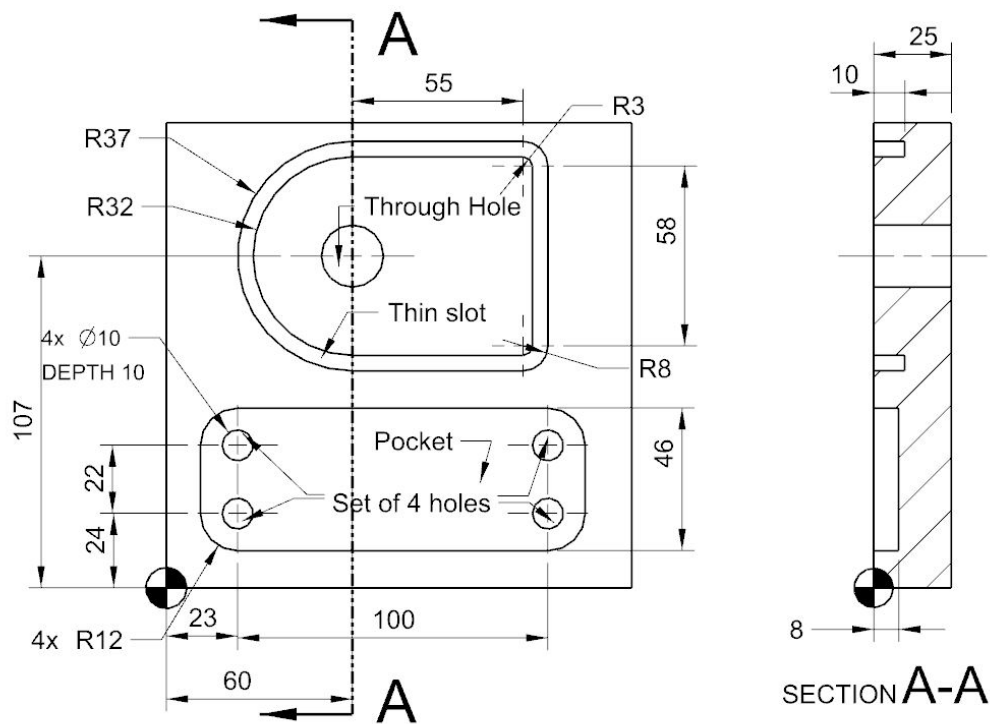

Figure 4. Diagram of part to be produced
- a) Write an NC program to manufacture the thin slot, the holes and the pocket shown in Figure 4 using a suitable cutting tool for each feature. In your answer you should summarise the actions of each program block in writing. The machining strategy and the resultant program should require the least number of blocks possible.